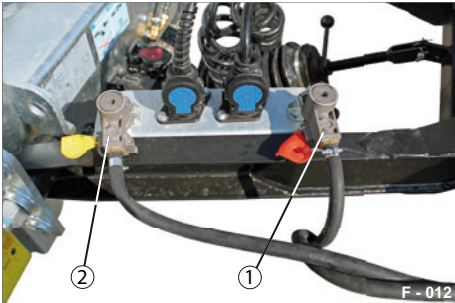

Fig. 15 Connections parked
- ▶ Unscrew the coupling heads out of the park holders of the park console (Fig. 15/3).
- ▶ Couple the "Brake" coupling head (Fig. 15/2).
- ▶ Couple the "Supply" coupling head (Fig. 15/1).